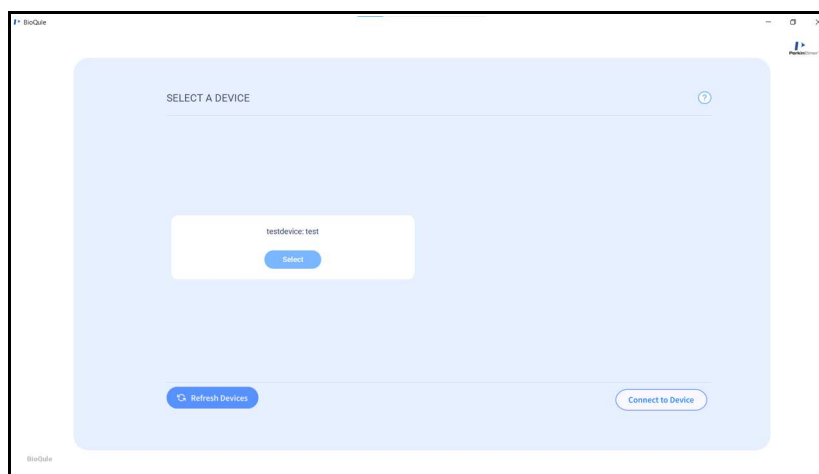

Figure 10. Select a Device Window
- 2 Click the **Refresh Devices** button to list the BioQule instruments connected to the computer as shown in Figure 10.